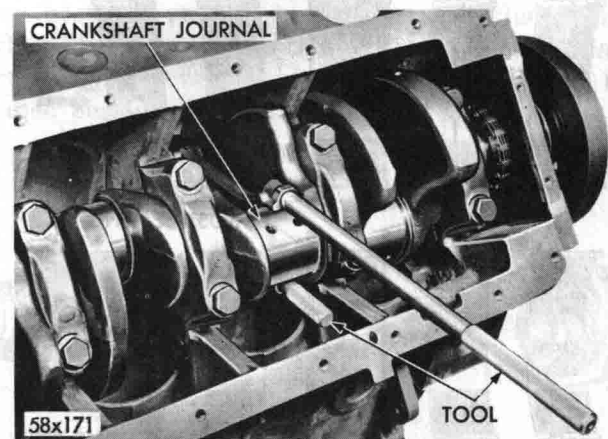

Fig. 53—Removing or Installing Connecting Rod Using Tool C-3221
(5) Attach the puller part of Tool C-3221 on the other bolt, and guide the rod over the crankshaft journal, as shown in Figure 53.
(6) Tap piston down in the cylinder bore, using the handle of a hammer. At the same time, guide connecting rod into piston on crankshaft journal.
(7) The notch or groove on the top of the piston must be pointing toward front of the engine and the larger chamfer of the connecting rod bore must be installed toward crankshaft journal fillet.
(8) Install the rod caps, tighten nuts to 45 foot-pounds torque.